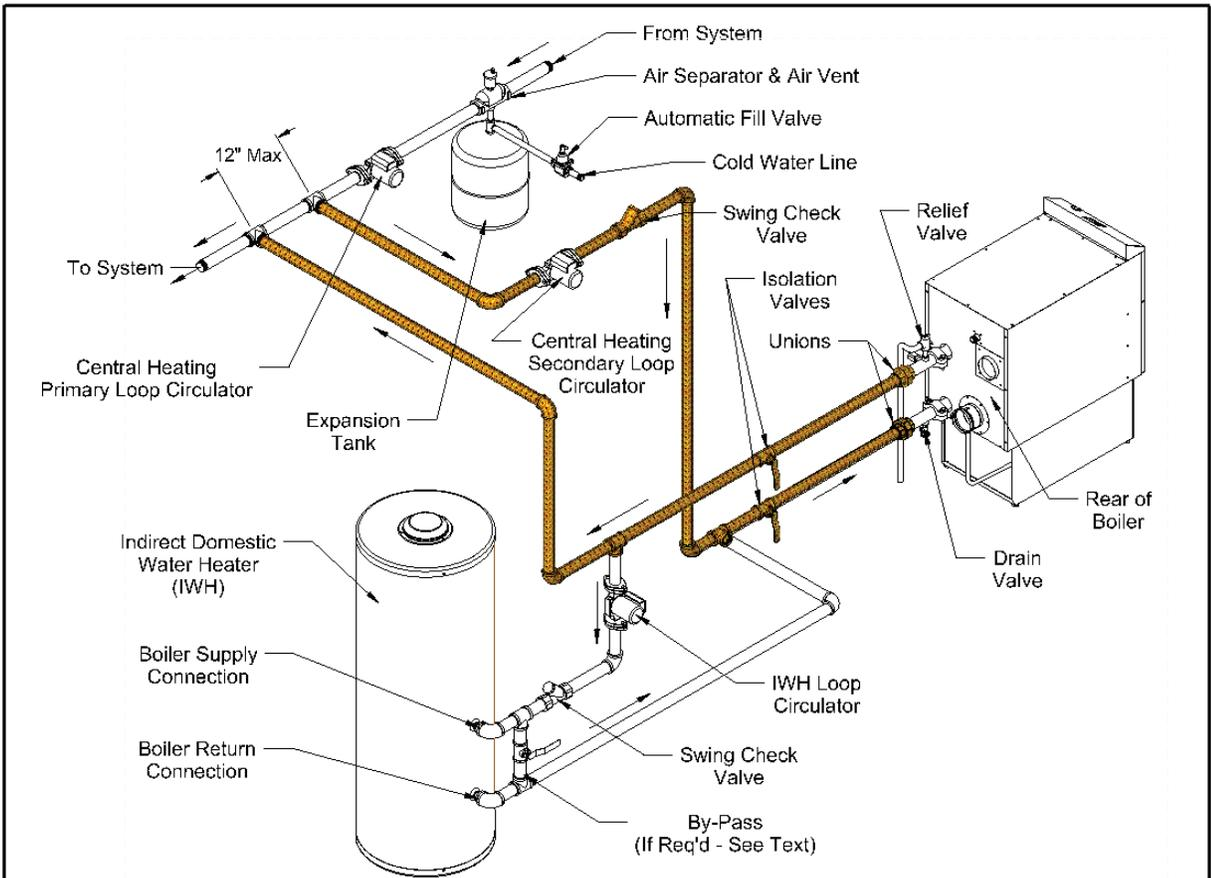

Figure 8.4a: Piping Method #1 - Secondary Loop Piping (Shaded)
- 2) Secondary Loop (“Boiler Loop”) Piping – The secondary (or “boiler loop”) piping is shown shaded in figure 8.4a. All piping in this loop must be the size shown for the boiler in Table 8.5, column (a). To size the circulator for this loop: